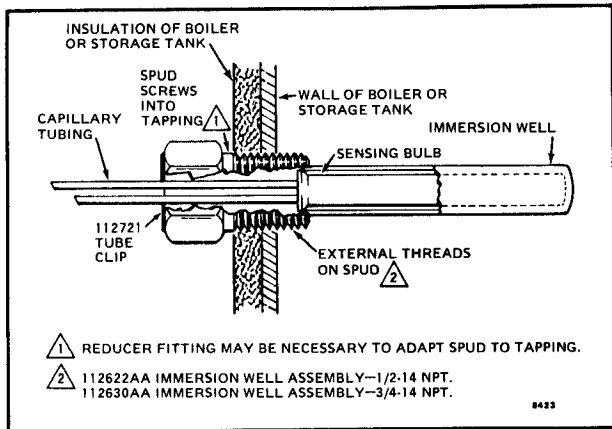
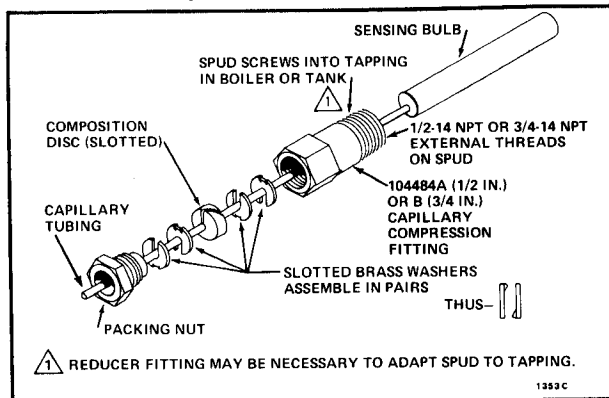

FIG. 2—MOUNTING THE SENSING BULB IN AN IMMERSION WELL.
FIG. 3—MOUNTING THE SENSING BULB USING A CAPILLARY COMPRESSION FITTING.
In boilers or storage tanks—immersion well (Fig. 2) or capillary compression fitting (Fig. 3).
USE OF AN IMMERSION WELL (FIG. 2)
USE OF A CAPILLARY COMPRESSION FITTING (FIG. 3)
5. Place the composition disc and 4 slotted brass washers on the capillary tubing in the order shown in Fig. 3.